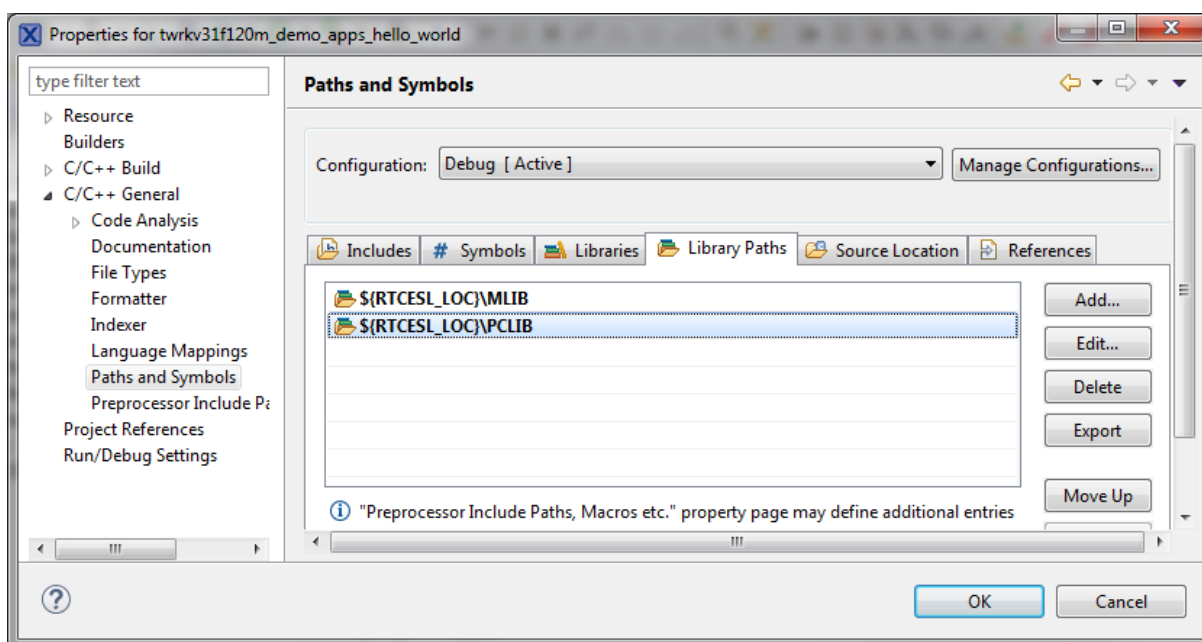

Figure 1-9. Library paths
3. In the right-hand dialog, select the Library Paths tab. See Figure 1-9.
8. Click OK, you will see the added into the list. See Figure 1-9.